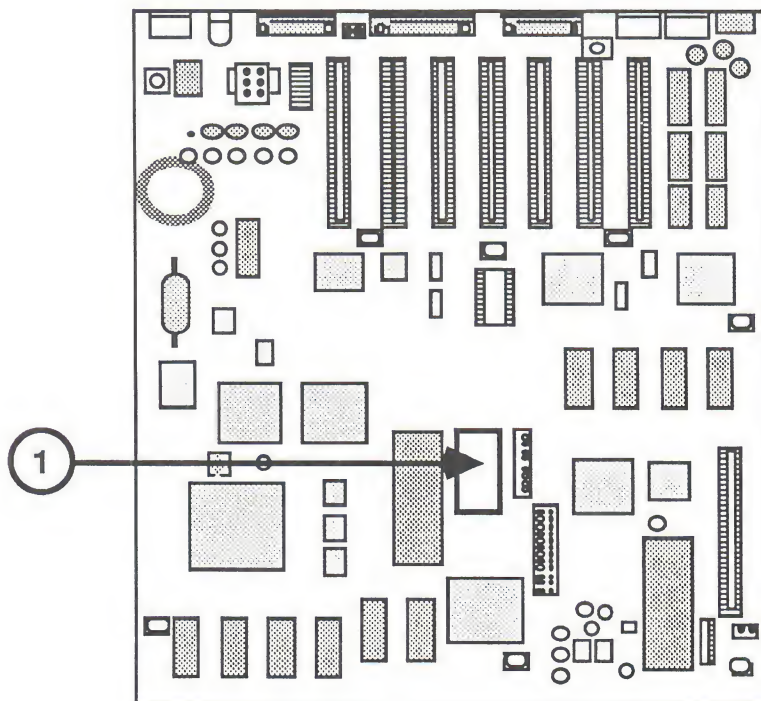

FIGURE 11
3. Locate the ROM at location H10 (Figure 11, #1) and verify that it is the old ROM (P/N 342-0077-A).
4. Using an IC extractor, remove the old ROM installed at location H10 (Figure 11, #1).
5. Install the new ROM in the same location, H10 (Figure 11, #1). There is a notch at one end of the ROM. This notch should face the **front** of the machine on installation.